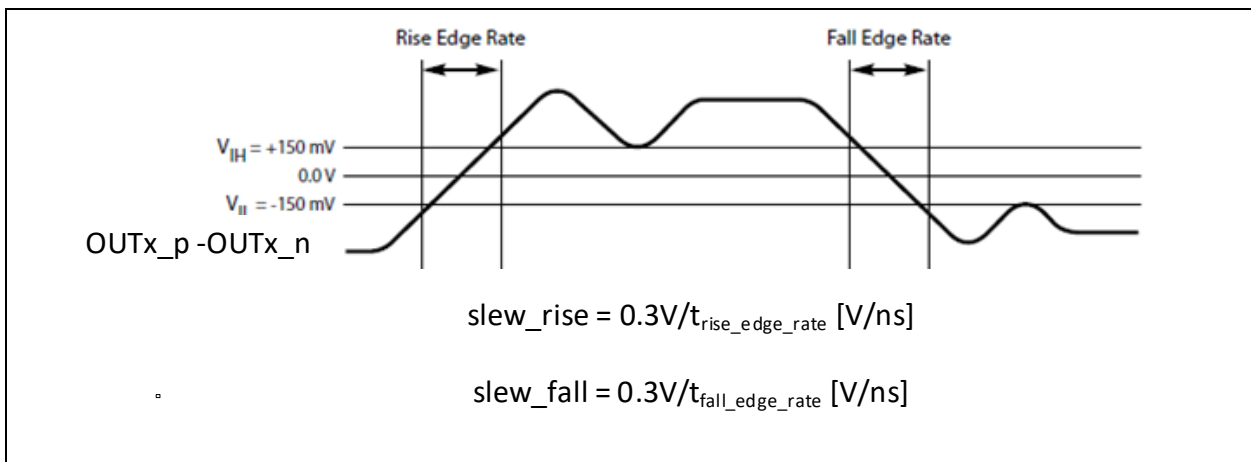

Figure 18. Differential Measurement Points for Rise and Fall Time
(0) Output differential swing is calculated as $V_{SW} = V_{OH} - V_{OL}$. It should not be confused with $V_{SW} = 2 * (V_{OH} - V_{OL})$ used in some datasheets
(1) Measurement taken from single ended waveform
(2) Measurement taken from differential waveform.
(3) Measured from -150 mV to +150 mV on the differential waveform (derived from CK minus CK#) The signal must be monotonic through the measurement region for rise and fall time. The 300 mV measurement window is centered on the differential zero crossing. See Figure 18